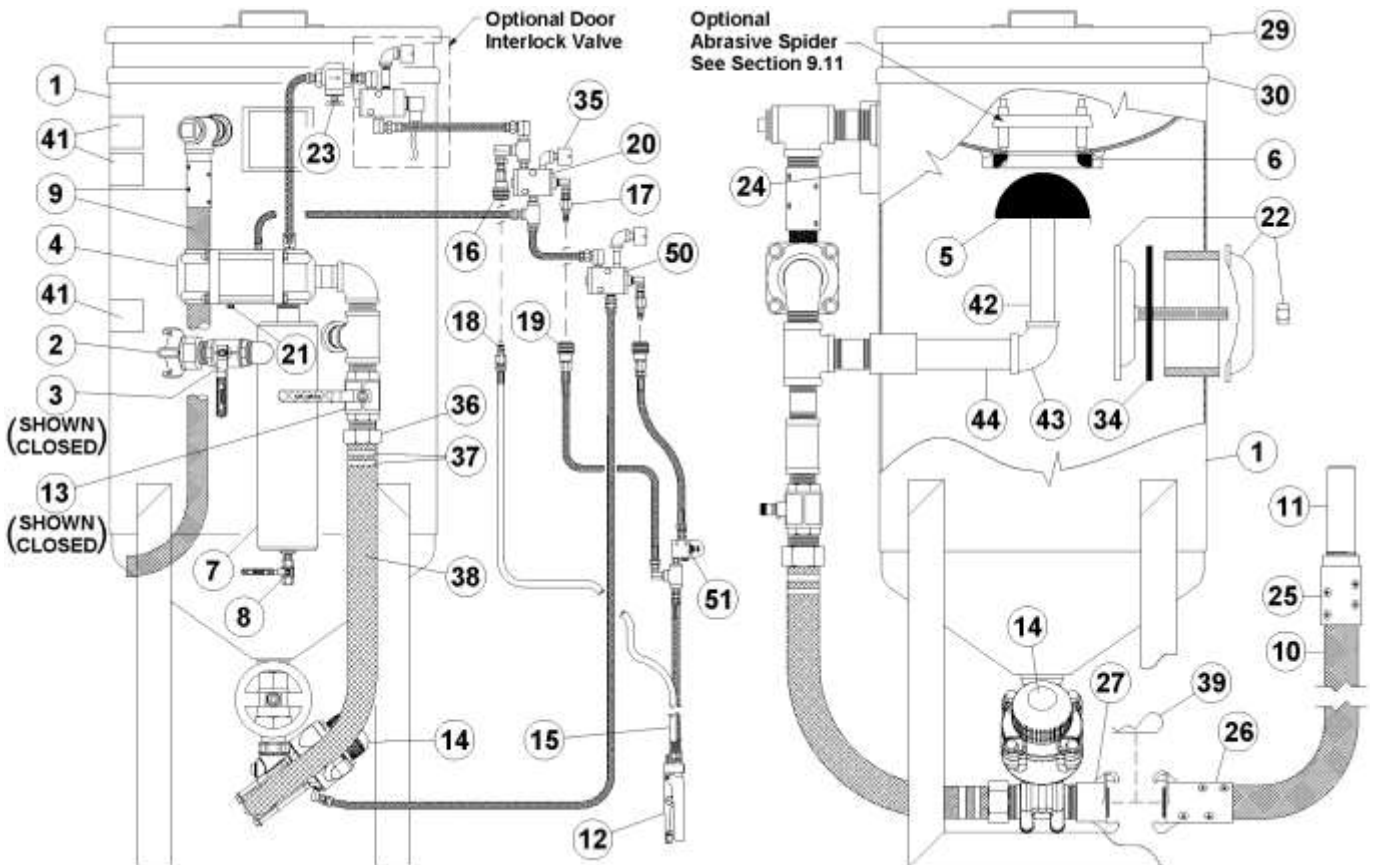

Figure 8.4(b) – Thompson®/Combo Abrasive Blaster with pneumatic blast controls
- 8.11. **Thompson® Valve Blaster Blowdown Ball Valve:** The blowdown ball valve (#4) is used to depressurize the Thompson Valve abrasive blaster pressure vessel (#1). See Figure 8.4(a). The blowdown air flow can carry abrasive from inside the pressure vessel which will wear the blowdown ball valve (#4) and piping. This wear can cause the blowdown ball valve (#4) to be difficult to open and/or close properly. Inability to close properly will result in air leaks and extended damage. The blowdown air flow will also wear the pipe fittings in the line. When any of these conditions develop, it will be noticeable during daily blowdown operation. When any malfunction is detected the blowdown ball valve (#4) and attaching fittings should be replaced.